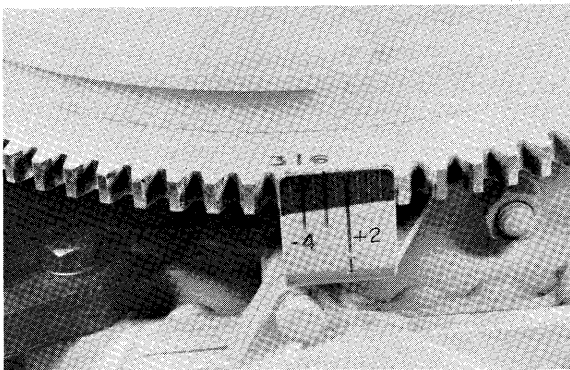

Figure 8—Aligning 36° Mark on Flywheel With Timing Pointer
- J. Turn flywheel clockwise (same as engine rotation) to line up 36° mark on flywheel with the -4 mark (32° before top dead center) on timing pointer. See figure 8.